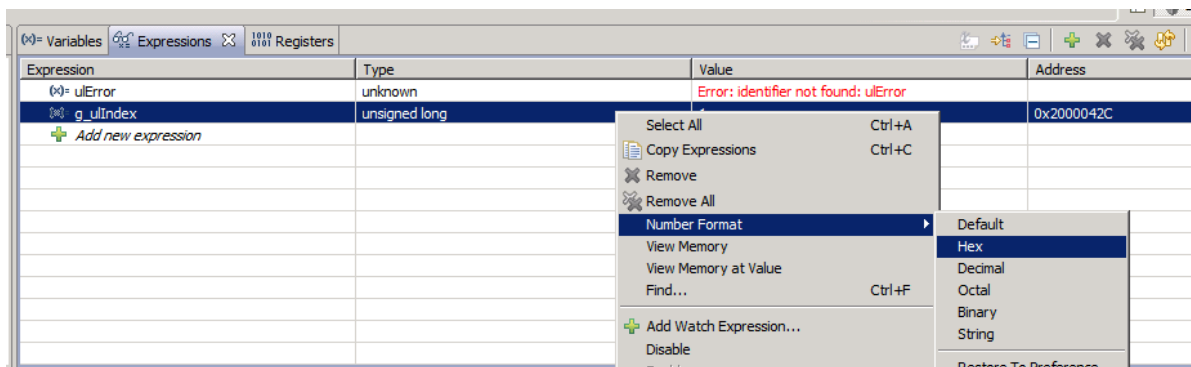

Figure 10: Changing number format in the variables window
4. Step through the code until you get to the assignment for variables flt, X, and tst. **Answer the questions asked in the code in your report using the Variables window in CCS.** Note that you can change the way CCS displays a variable in the variables window by right-clicking on it and selecting “Number Format”, as shown in Figure 10.